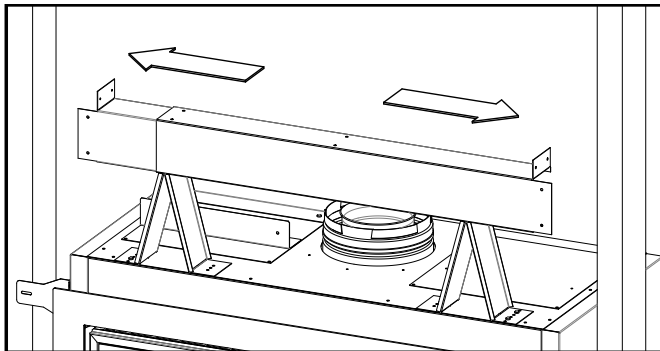

Figure 30: Steel Stud Placement
- Place the steel stud onto the top standoffs and slide outwards until both ends make contact with the framing studs (see Figure 30).